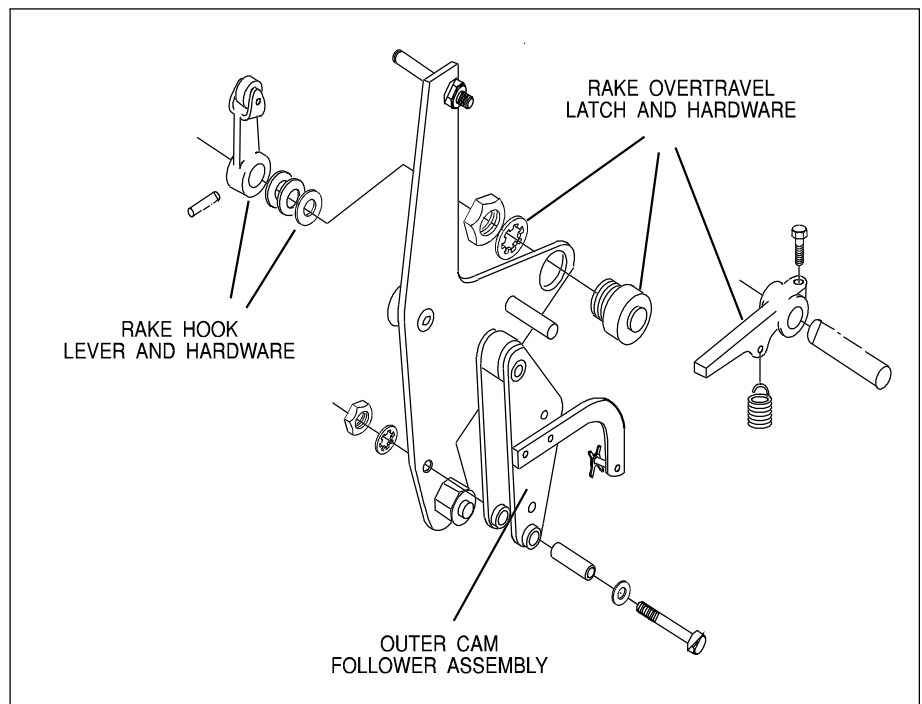

Figure 17. Rake Cam Follower Modifications
5. Remove the rake overtravel latch (part no. 12-250033-000) and the rake hook lever (part no. 12-250262-000) from the rake cam follower assembly and discard these parts (Figure 17).